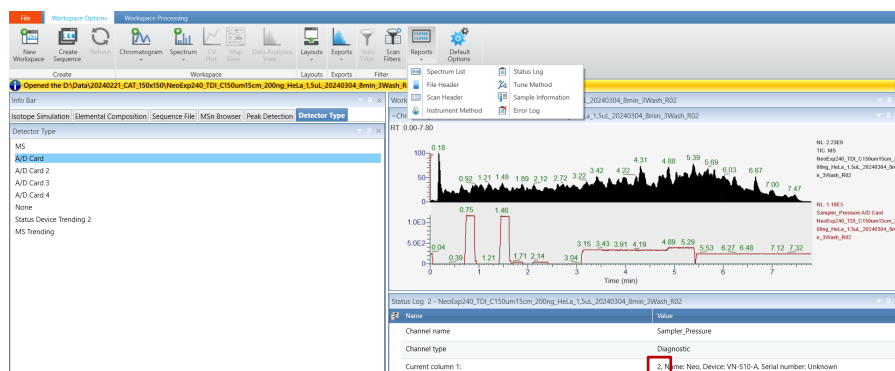

Figure 128: Sample chromatogram displayed in FreeStyle with the “active column” used to acquire the data file displayed.
1. Program a new method. In the Basic Tandme Settings for the Workflow, changes the **Duration to 10 minutes** and the **delay to 2.3 minutes** (see Figure 128)
7. Program a new method. In the Basic Tandme Settings for the Workflow, changes the **Duration to 10 minutes** and the **delay to 2.3 minutes** (see Figure 128)
TIP The active column used for the sample data acquisition is displayed under the name “Current column 1:” The integer value in the title is misleading. It is the value property (‘2’ in the example in Figure 128) which defines the column.